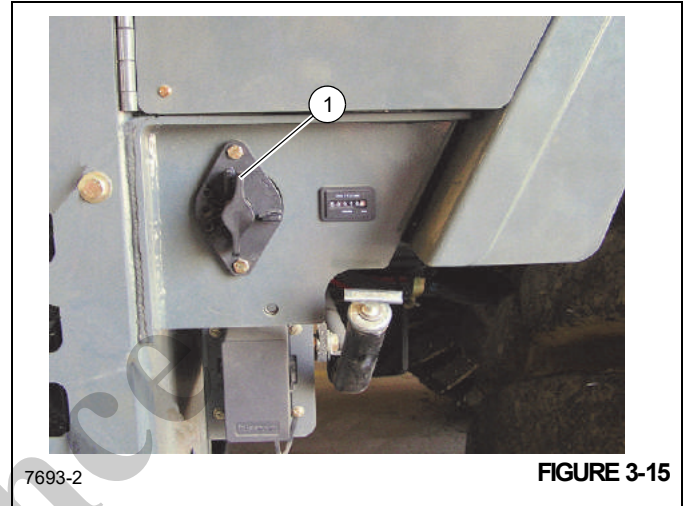

FIGURE 3-15
Ensure Battery Disconnect Switch handle (1) (Figure 3-15) is in the ON position (handle shown in the OFF position)